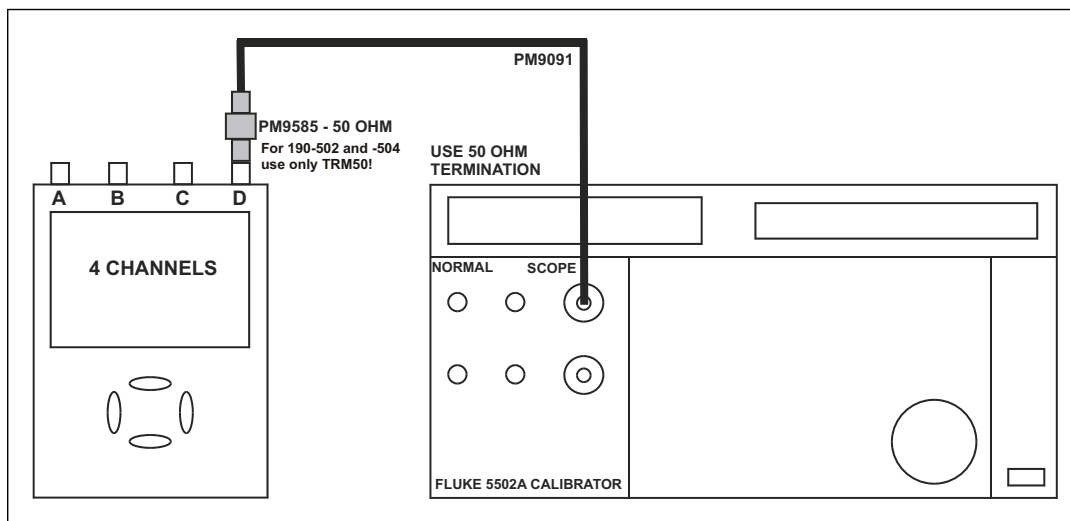

Figure 5-6. 5502A SCOPE Output to Test Tool Input D
2. Connect Ch. D of the Test Tool to the 5502A as shown in Figure 5-6.